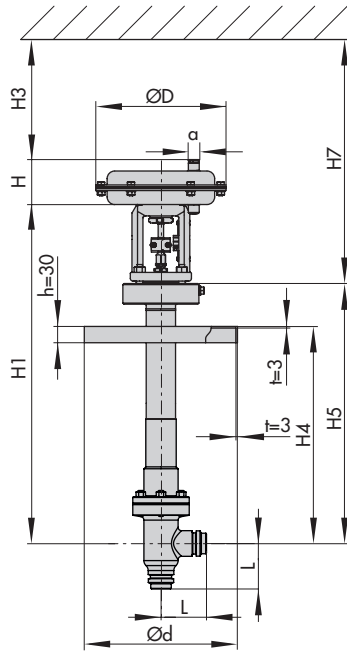

Fig. 9: Type 3248-1 Angle Valve with aluminum body
**Table 5.1:** Type 3248 Angle Valve with aluminum body, PN 16 to 401) (Fig. 9)